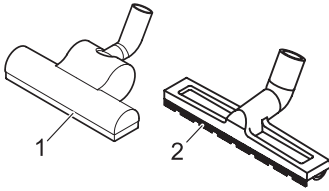

Fig. 7
- **Turbo brush (Fig. 7/1)**
- **Parquet brush (Fig. 7/2)**